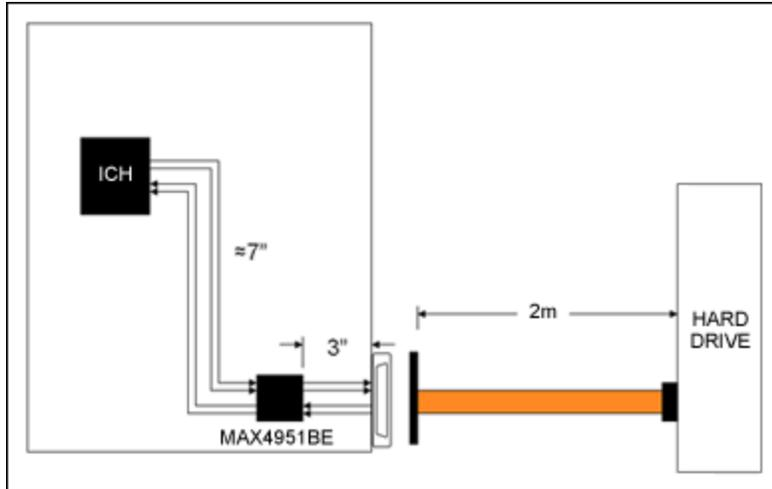

Figure 1. A typical eSATA-to-SATA setup. The host drives several inches of board or cable to the eSATA connector and a 2m eSATA cable to the hard drive.
**Figure 1** illustrates a typical placement. The controller hub (host) is several inches from the MAX4951BE. The host drives several inches of board or cable to the eSATA connector, and then a 2m eSATA cable to the hard drive. The signal from the host may just pass internal specifications; the signal can be as small as  $400\text{mV}_{\text{P-P}}$ . It then travels over from 3in to 9in of board to the connector. Sometimes this signal is connected to the board with a flex or ribbon connector, and losses of 1dB to 7dB are not uncommon. In that case, a  $400\text{mV}_{\text{P-P}}$  signal will no longer pass eSATA output level requirements. In addition, the high-frequency rolloff will introduce dependent jitter ( $D_J$ ).